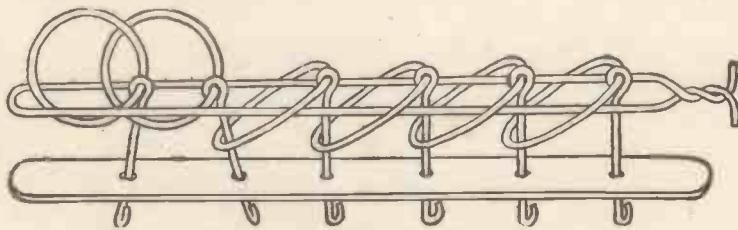

Fig. 6.—The Second Move in solving the Puzzle.
consecutively towards the right. Draw the loop through the rings towards the right as far as it will go, lift rings 1 and 2 together over the end of the loop, then push the loop back to the left and drop the rings through as shown in Fig. 6. This illustration shows the rings nearly half-way through the loop, but they will
After removing 1 and 2 as just described, the ring at the left-hand end of the loop is No. 3, and the second from the end No. 4; No. 4, then, is the next ring to come off. It is removed by drawing the loop as far as possible to the right, lifting 4 up over the end of the loop, pushing the loop back to the left, and dropping the ring through in the same way as you did 1 and 2. (See Fig. 6.)
**Removing the Three Remaining Rings.**—You now remove No. 3, and to do this put Nos. 1 and 2 on again by reversing the process for taking them off, i.e., push rings 1 and 2 up through the loop as in Fig. 6, draw the loop to the right and allow the rings to drop below the rounded end of the loop. Now draw the